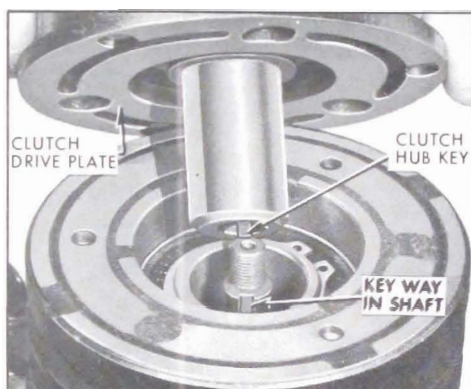

Figure 11-101—Positioning Clutch Drive Plate on Shaft
1. Insert clutch hub key into hub of clutch drive plate so it projects approximately $3/16''$ out of end of keyway. See Figure 11-101.